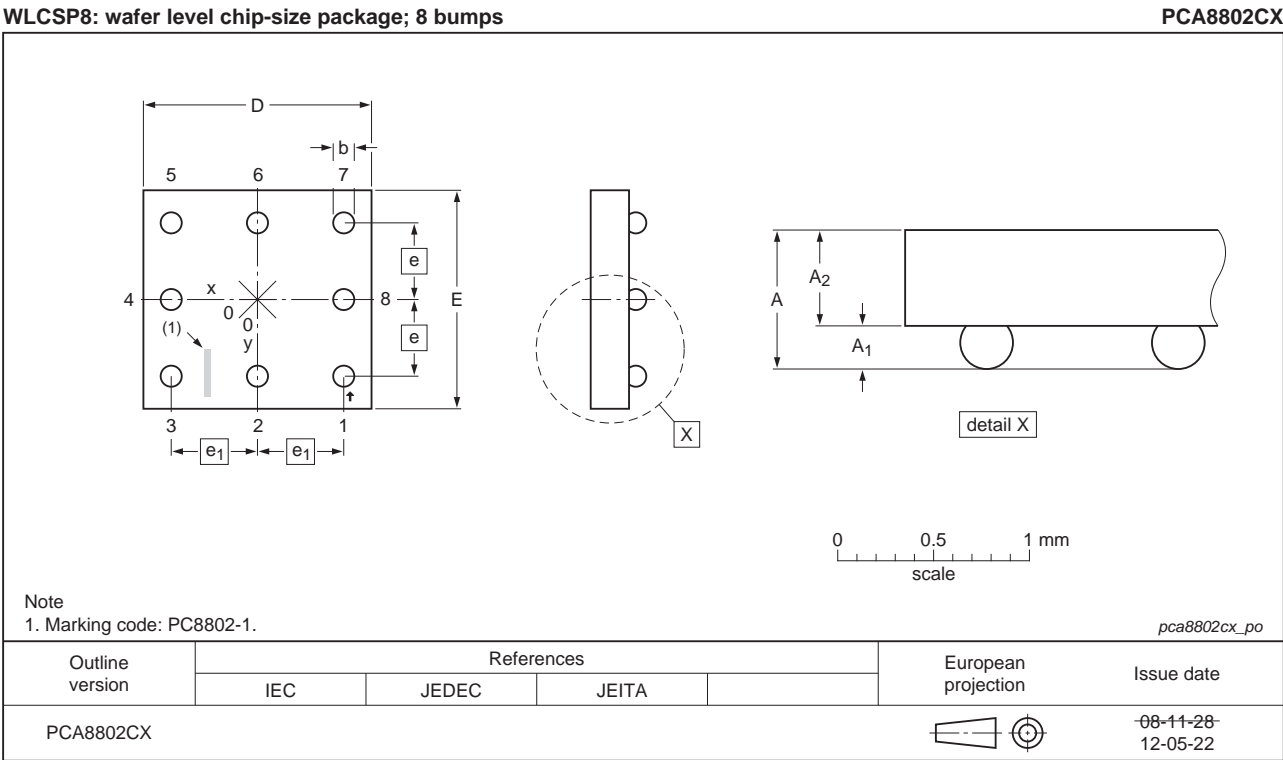

Fig 28. Bare die outline PCA8802CX
2. It is recommended to use circular landing sites of the same diameter as the solder ball. This will help with self alignment. Solder bump dimensions can be found in Figure 28.